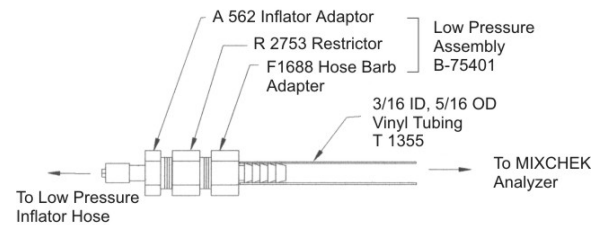

Figure 1
**Portable model:** The portable model is supplied with a 3/16" vinyl hose connected to the inlet port and adapters for taking a gas sample from the inflator hose (See Figure 1). An optional flow restrictor is available for sampling gas directly from cylinders. (See Figure 2)